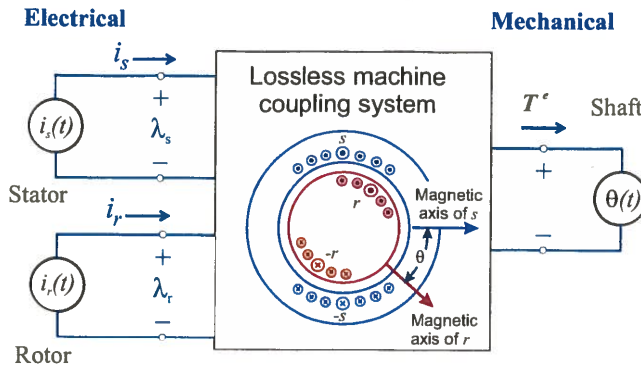

Figure 1: 3-Terminal EM Conversion System
2. Explain synchronous machine power flows using the 3-terminal electromechanical conversion diagram (Fig. 1), the machine conditions for average power conversion, and the induction machine torque speed curve (Fig. 2). Note: machine includes generator and motor operation.